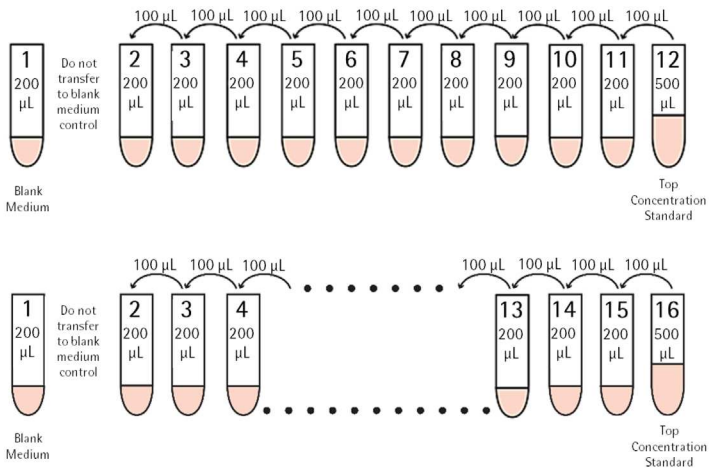

Figure 7. Serial dilution of Cytokine Standards.
- Perform 3-fold serial dilutions of Cytokine Standards (i.e., 100 μ L of top standard into 200 μ L of culture medium serially). For the 96-well format perform a 12-point curve, including a blank medium control (**Figure 7, top**). For the 384-well format, perform a 16-point curve, including a blank medium control (**Figure 7, bottom**).